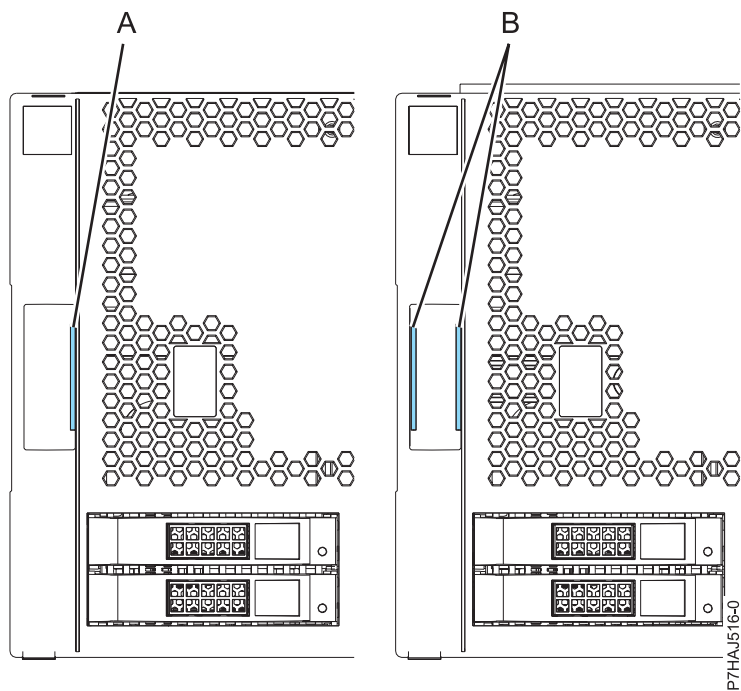

Figure 4. Identifying the older and newer covers
**Note:** The older covers that were shipped before 1 March 2011 can be identified by a single blue stripe (**A**) on the cover assembly latches. Newer covers that were shipped after 1 March 2011 have two blue stripes (**B**) on the cover assembly latches. See Figure 4 on page 19.